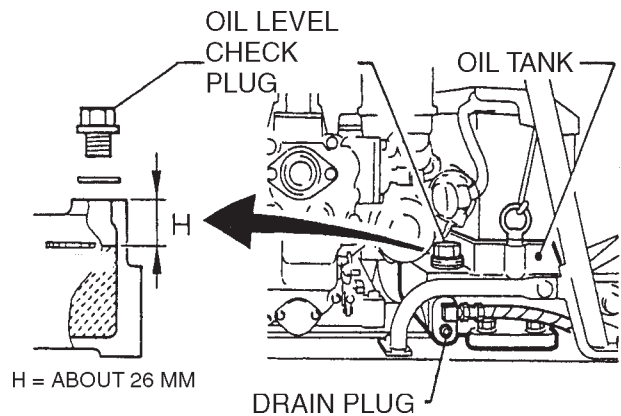

Figure 23. Hydraulic Oil Maintenance
1. Remove the drain plug (Figure 23) at the bottom of the oil tank with a 6 mm hex wrench and drain the hydraulic oil.
5. After filling tank, temporarily install cover. Loosen bleeder plug located at the top of the cylinders on side of vibrator (Figure 23). Air remaining in the circuit will be forced out of the bleeder plug.